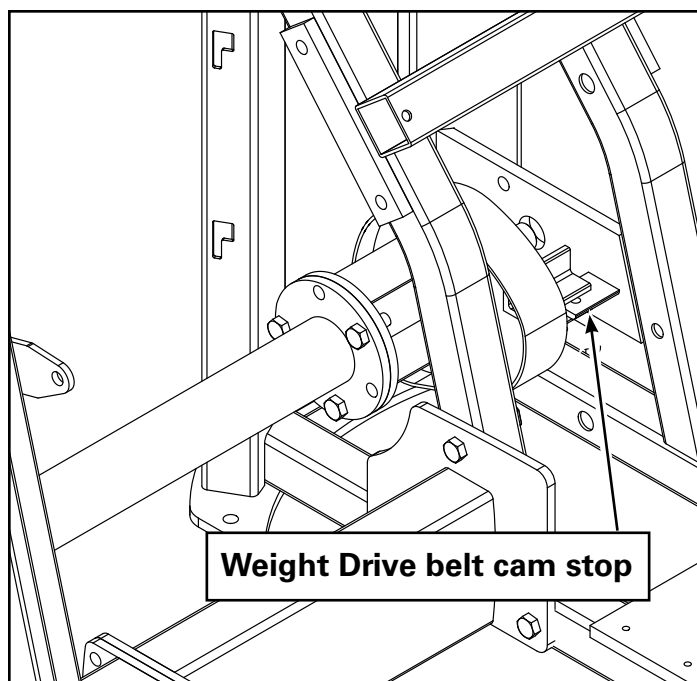

Figure 3
- 1-3** Align the Seat Frame Weight Drive holes to Tower Weight Drive holes and pins. Insert (3) 1/2 x 1 1/4" bolts into weight drive and (3) 1/2 x 3" bolts into seat frame plate. Carefully align Seat Frame to the Tower and tighten all bolts (Figure 3).